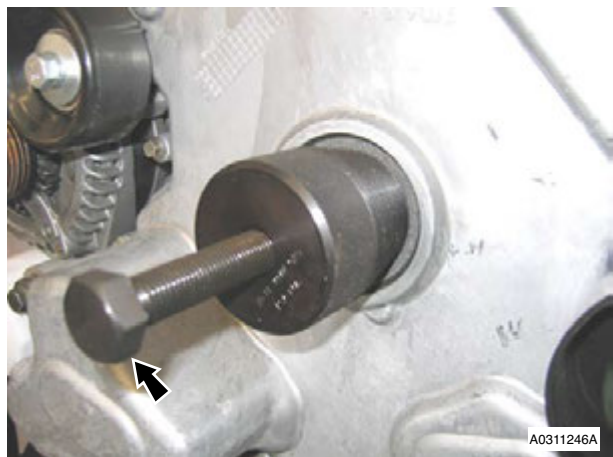

Figure 2
5. Tighten centre bolt of tool (303-1190) and withdraw oil seal from timing cover (see Figure 2).